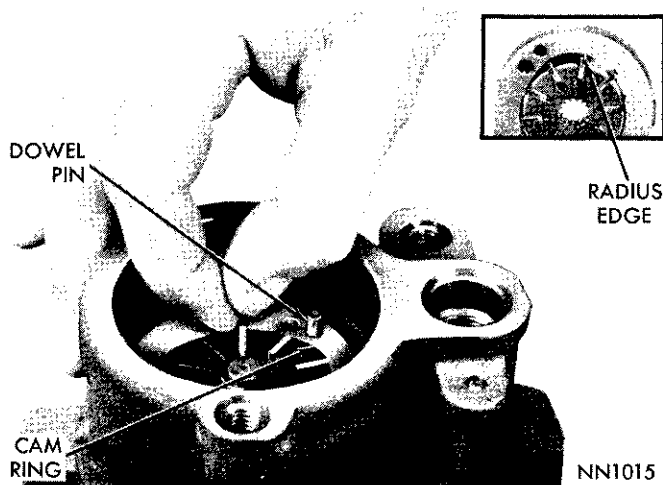

Fig. 15—Installing Rotor Vanes
(9) Install ten vanes in rotor slots with radius edge facing out towards cam ring inner surface (Fig. 15). **CAUTION: Vanes installed with flat edge out will result in noisy pump operation.**
(10) Position pressure plate on dowel pins. Place a 1-1/4 inch socket in groove of pressure plate and seat entire assembly on "O" ring in pump cavity by